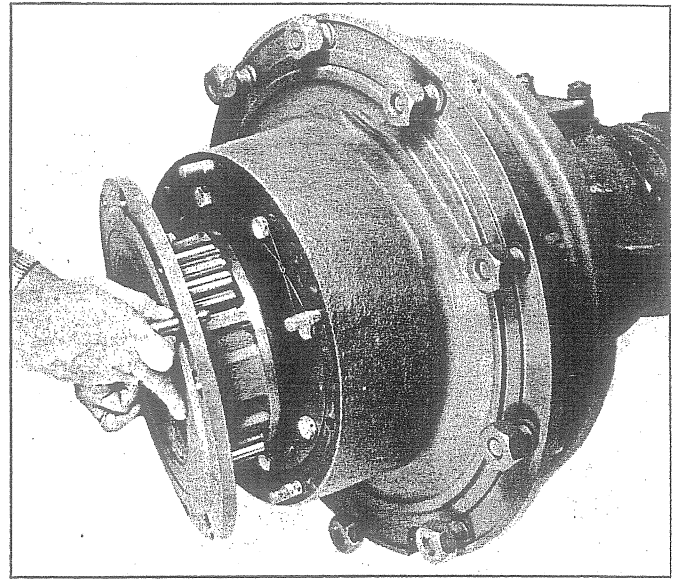

Fig. 5 - Removing Planetary
3. Remove bolts and nuts securing planetary assembly to axle hub. Use two puller bolts and remove the planetary as shown in Fig. 5.